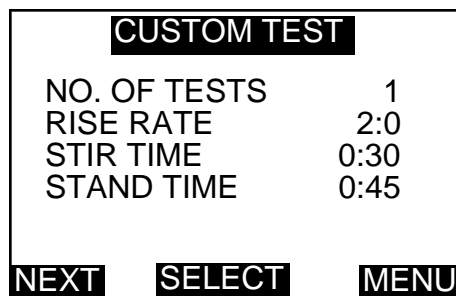

Figure 14. CUSTOM Test display screen.
1. From the main menu select CUSTOM. The display will appear similar to figure 14.